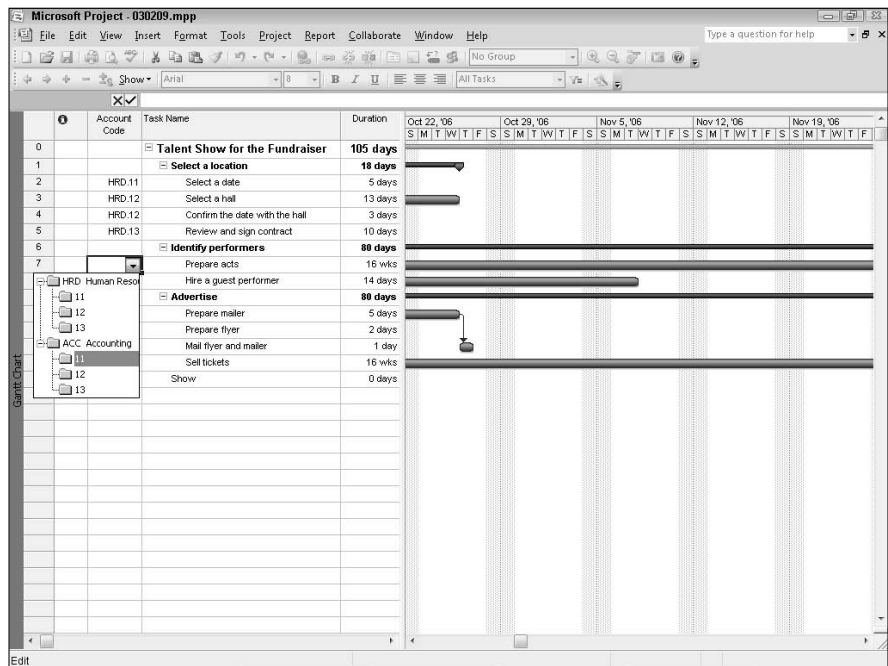

Figure 2-9: You can enter outline codes by using the entries that are listed in the lookup table.
7. Open the list to display the entries from the lookup table and select a code (see Figure 2-9).